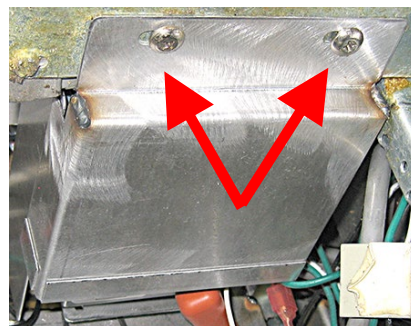

Figure 26
28. Remove the ignition module covers by removing the two (2) screws securing the cover (see Figure 26).